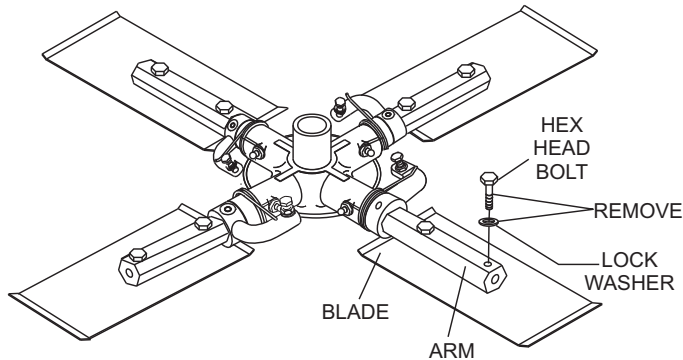

Figure 43. Trowel Blades
1. Remove the trowel blades from the trowel arm by removing the three hex head bolts (Figure 43) from the trowel arm. Set blades aside.